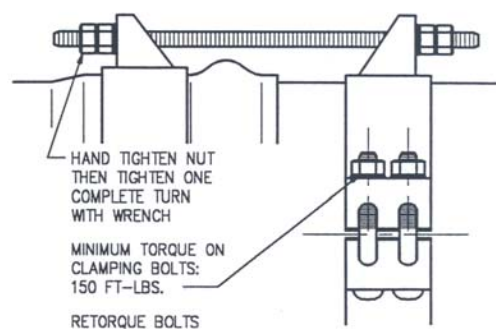

FIGURE 2
5. Tighten clamping bolts to minimum of 150 ft/lbs. Wait a few minutes and re-torque bolts again. (This should leave a gap of approximately 1/2 inch between the restrainer ends.) See Figure 2 below.